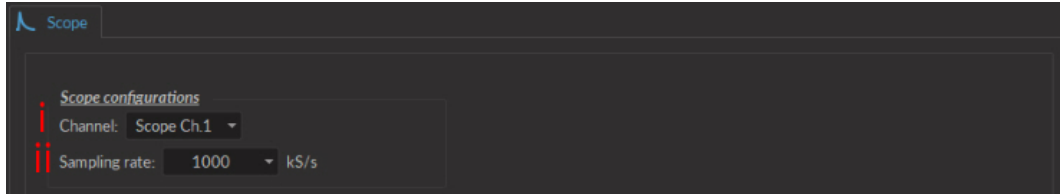

Figure 4.11: Scope
- h) The **Scope** mode allows the measurement of electrical signal using the driver (Fig. 4.11). The signal is received by the Input BNC of the chosen channel on the light source driver.